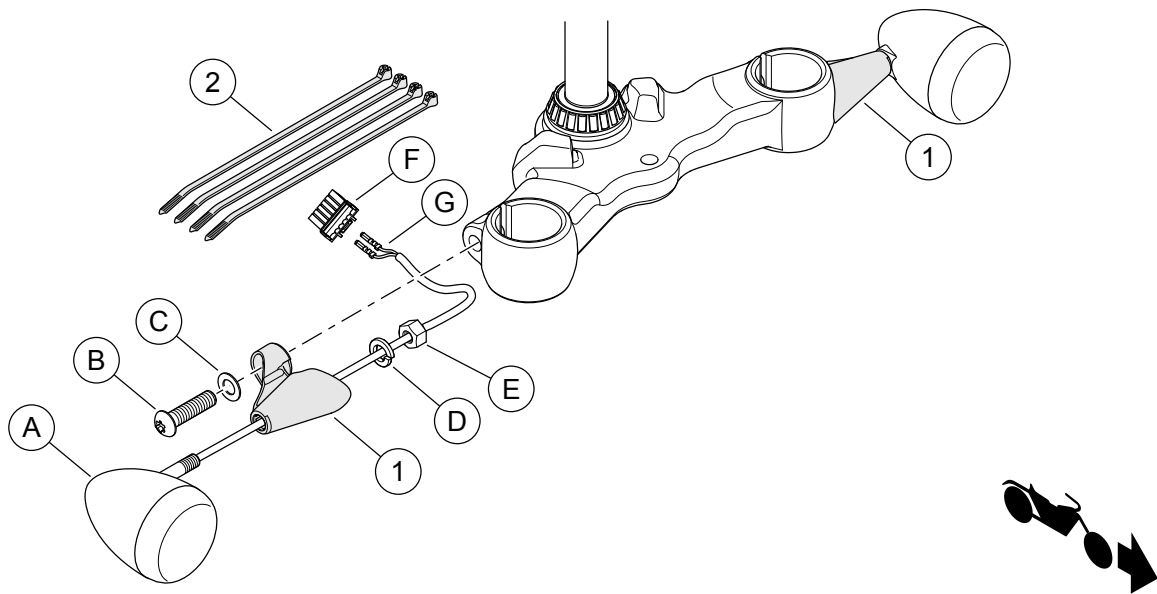

Figure 1. Service Parts: Front Turn Signal Relocation Kit - XL1200X
See Figure 1 and Table 1.
3. See Figure 1. Remove connector housing (F) from turn signal assembly harness. Note terminal (G) locations. See the service manual.
4. Remove right front turn signal assembly from original equipment (OE) location. See the service manual. Retain all mounting hardware. Note turn signal harness routing.
5. Remove nut (E), washer (D), and turn signal assembly (A) from OE turn signal mount.
8. See Figure 1. Route the turn signal assembly terminals (G) and wiring through the turn signal mount (1).
9. Install turn signal assembly to turn signal mount. Secure with lockwasher (D) and nut (E). Tighten to 16.3–21.7 N·m (12–16 ft-lbs).
12. Route the turn signal wiring for each turn signal to the main harness as previously noted. Secure wiring with cable straps (2).
13. Install turn signal wire terminals (G) into the previously removed connector housing as noted. See the service manual.